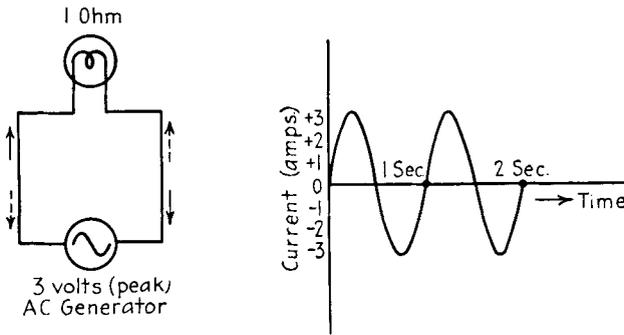

FIG. 5-3. Circuit and wave form for a pure alternating current (AC).
A third important type of current is the pure alternating current. This current continually changes in magnitude and periodically reverses in direction. An AC generator as a power source would produce such a current, often called a "sine-wave current." Figure 5-3 represents a pure alternating current. That the magnitude is constantly changing is shown
**Types of alternating currents.** Alternating currents present many interesting aspects that require explanation. Refer again to Fig. 5-3. The complete movement of electrons back and forth through the circuit is